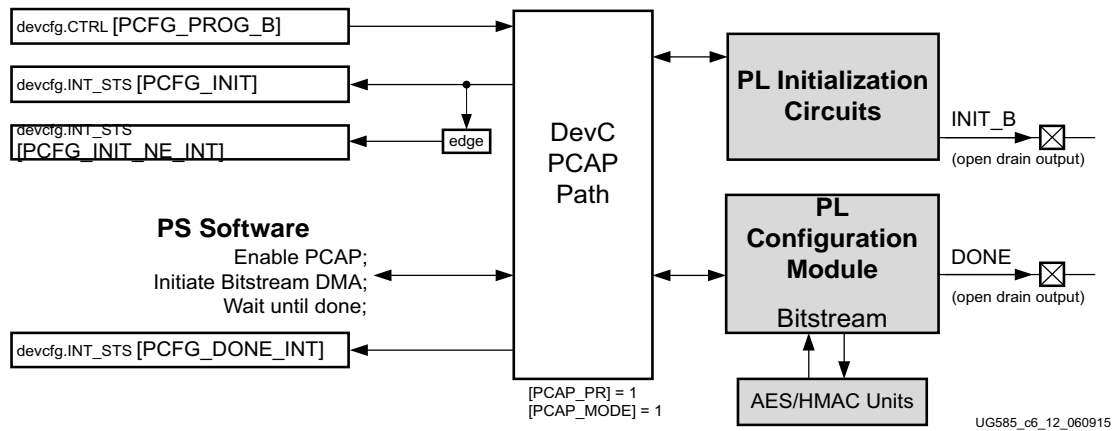

Figure 6-12: PCAP Path for PL Initialization and Configuration
4. **FSBL/User Code to Initialize and Configure PL.** The controls are shown in Figure 6-12. Refer to UG821, Zynq-7000 All Programmable SoC Software Developers Guide for information on creating FSBL/User code.
The PL is controlled by PS software (Figure 6-12) through the PCAP bridge or using external pins and the JTAG interface associated with the PL (Figure 6-20, page 219).
The PS and PL can be brought up together in a secure or non-secure mode. The simultaneous bring-up of the PS and PL is shown in Figure 6-12. Also refer to Figure 6-4, page 164 for details on power, reset, and clock interactions and timing examples. The PS non-secure bring-up using a flash device without JTAG illustrates a simple example with minimal resources. The example is shown in Figure 6-14. When the PL is needed later in the system operation, its bring-up is explained in the PL Bring-up by FSBL/User Code example.